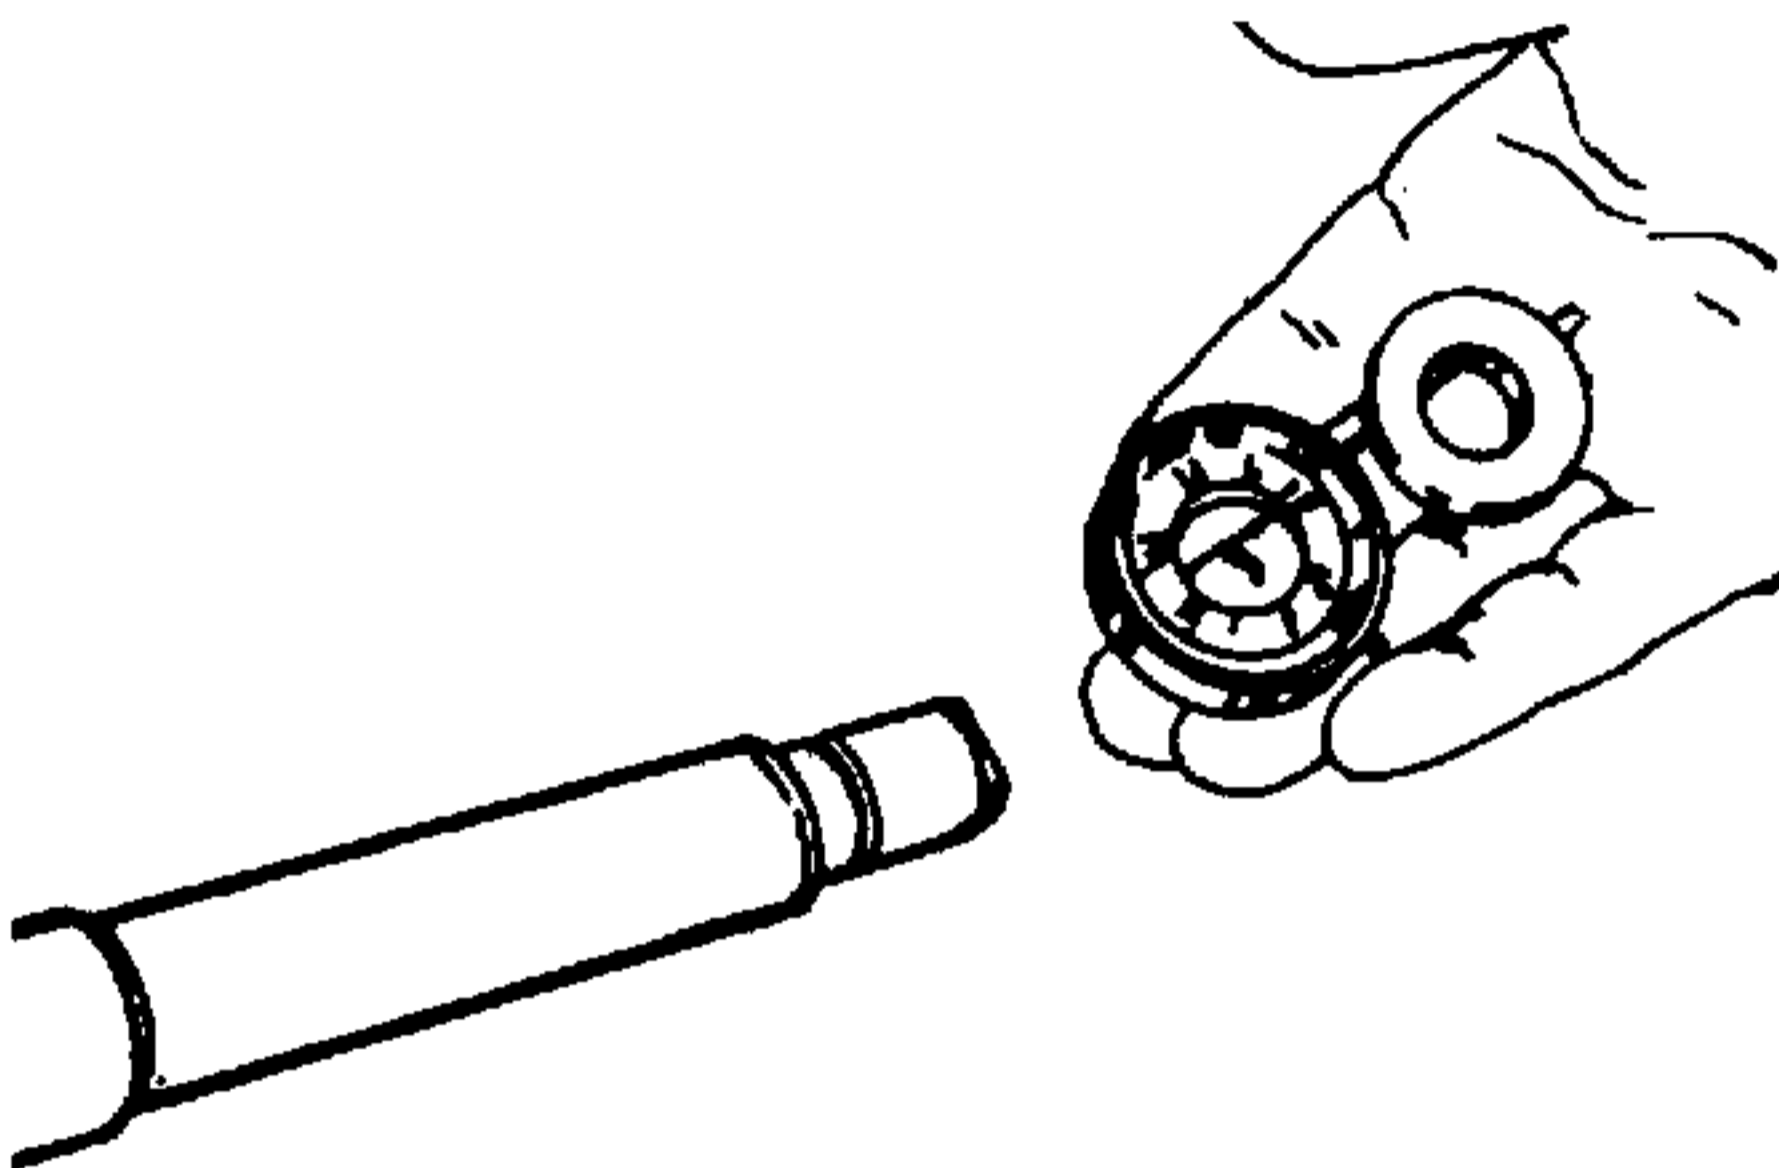

Figure 4-39. Removing Washer and Retaining Plate.
46. Remove washer (33, Figure 4-1) and retaining plate (34) from input shaft assembly (31) or upper cover and tube assembly (35). Discard if deformed or damaged. See Figure 4-39.